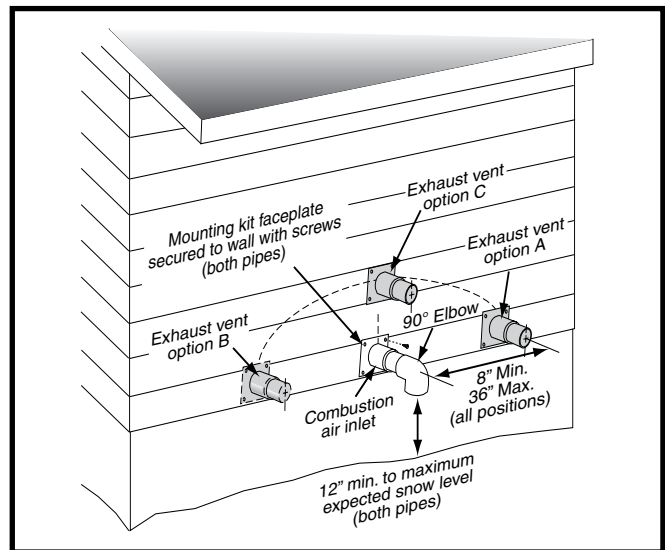
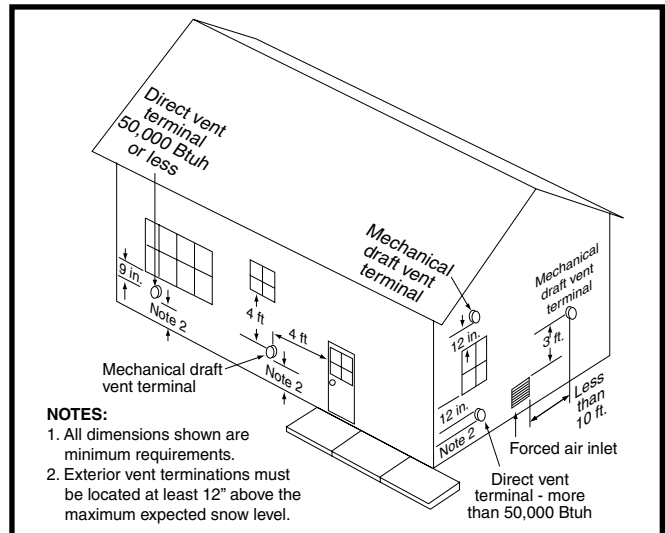
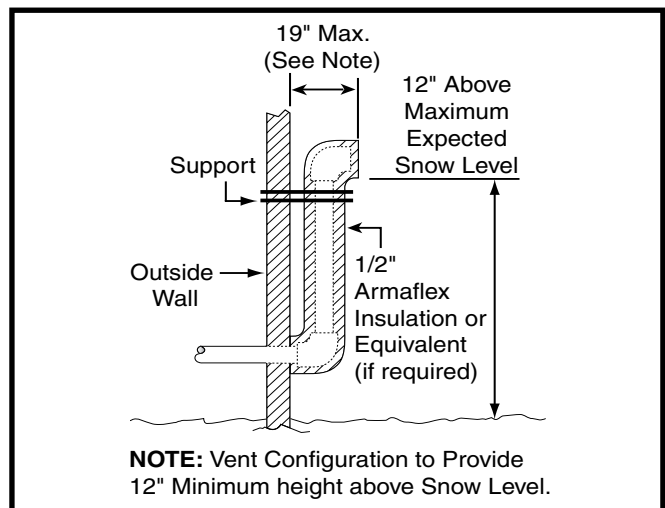
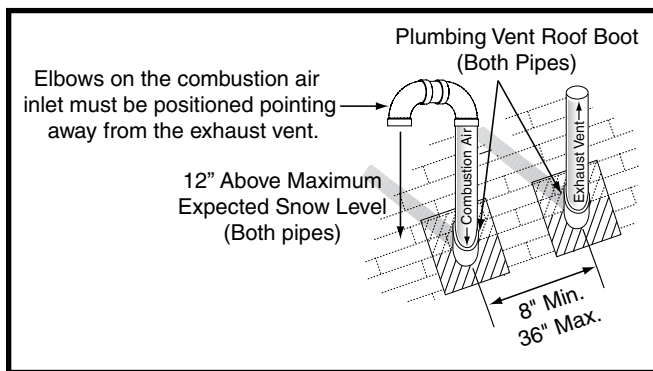

Figure 7. Inlet & Exhaust Pipe Clearances
Figure 8. Vent Locations
Figure 9. Alternate Horizontal Vent Installation
Figure 10. Vertical Vent Termination
- If a Direct Vent (2-pipe) system is used, the combustion air intake and the vent exhaust must be located in the same atmospheric pressure zone. This means both pipes must exit the building through the same portion of exterior wall or roof as shown in Figure 7, Figure 8, Figure 9, & Figure 10 (page 11).
- Vent and combustion air intake terminations shall be installed as depicted in Figure 7 & Figure 8 and in accordance with these instructions:
- All minimum clearances must be maintained to protect building materials from degradation by flue gases. See Figure 7.
- When the vent pipe must exit an exterior wall close to the grade or expected snow level where it is not possible to obtain clearances shown in Figure 7 \(page 10\), a riser may be provided as shown in Figure 9 \(page 10\). Insulation is required to prevent freezing of this section of pipe. See Table 2 for vent freezing protection.
Termination spacing requirements from the roof and from each other are shown in Figure 10. The roof penetration must be properly flashed and waterproofed with a plumbing roof boot or equivalent flashing. Vent and combustion air piping may be installed in an existing chimney which is not in use provided that:
- The termination clearances shown in Figure 10 are maintained.